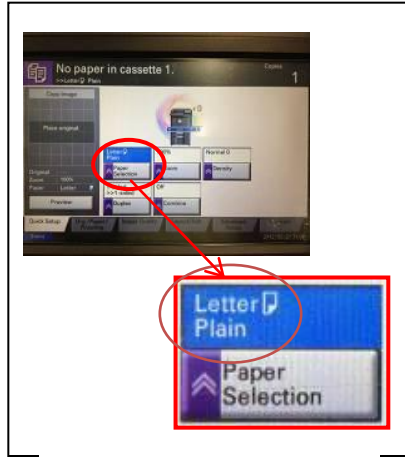

Fig.1 Paper size check
a. Check the paper size (Fig.1)